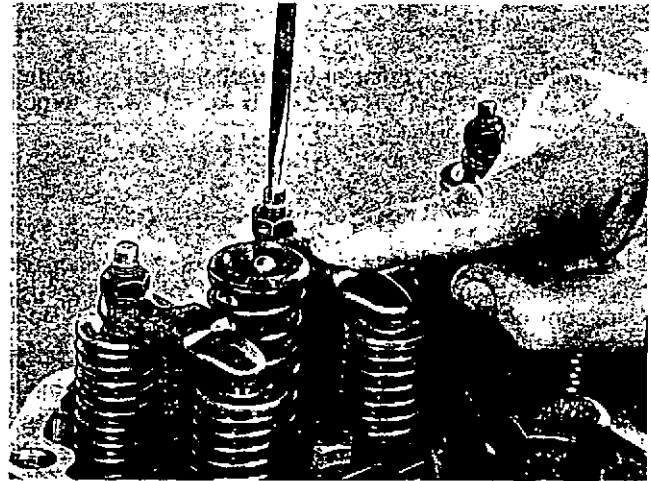

Fig. 5-36, N11462. Adjusting crossheads
3. Turn down crosshead adjusting screw until it touches valve stem. See Fig. 5-36.